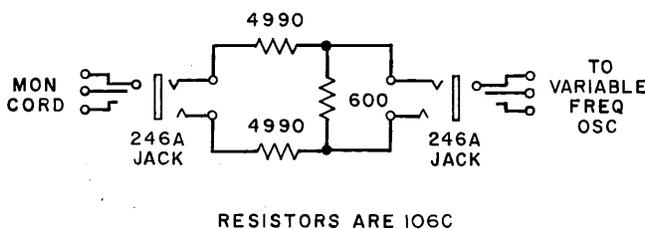

Fig. 1 — Jack Circuit
(c) Disconnect LD cord and connect oscillator to MON cord through circuit of Fig. 1. The OSC IN and MON TEST jacks may be used if they are available. Set switch **CHAN SEL** to 1. (Relay CH1 operates.) Record to nearest 0.1 db the reading on the transmission measuring set.
- (b) Connect oscillator to MON cord through circuit of Fig. 1 or use 906 OSC IN and MON TEST jacks. Connect a terminal test cord to the 906 DEMOD INPUT MEAS jack. Operate key SUPV-DATA to DATA and block operated key DATA READ.